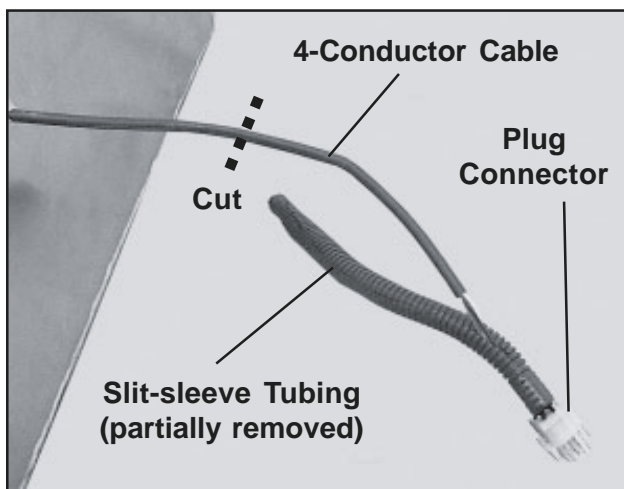

Figure 115. Connector End of Impeller Power Cord
11. Remove the tape from the slit-sleeve tubing on the power cord (Figure 115), and remove the tubing from the 4-conductor cable. Save the tubing for reinstallation.
12. Cut the 4-conductor cable (Figure 115) and discard the end of the wire and the old plug connector.